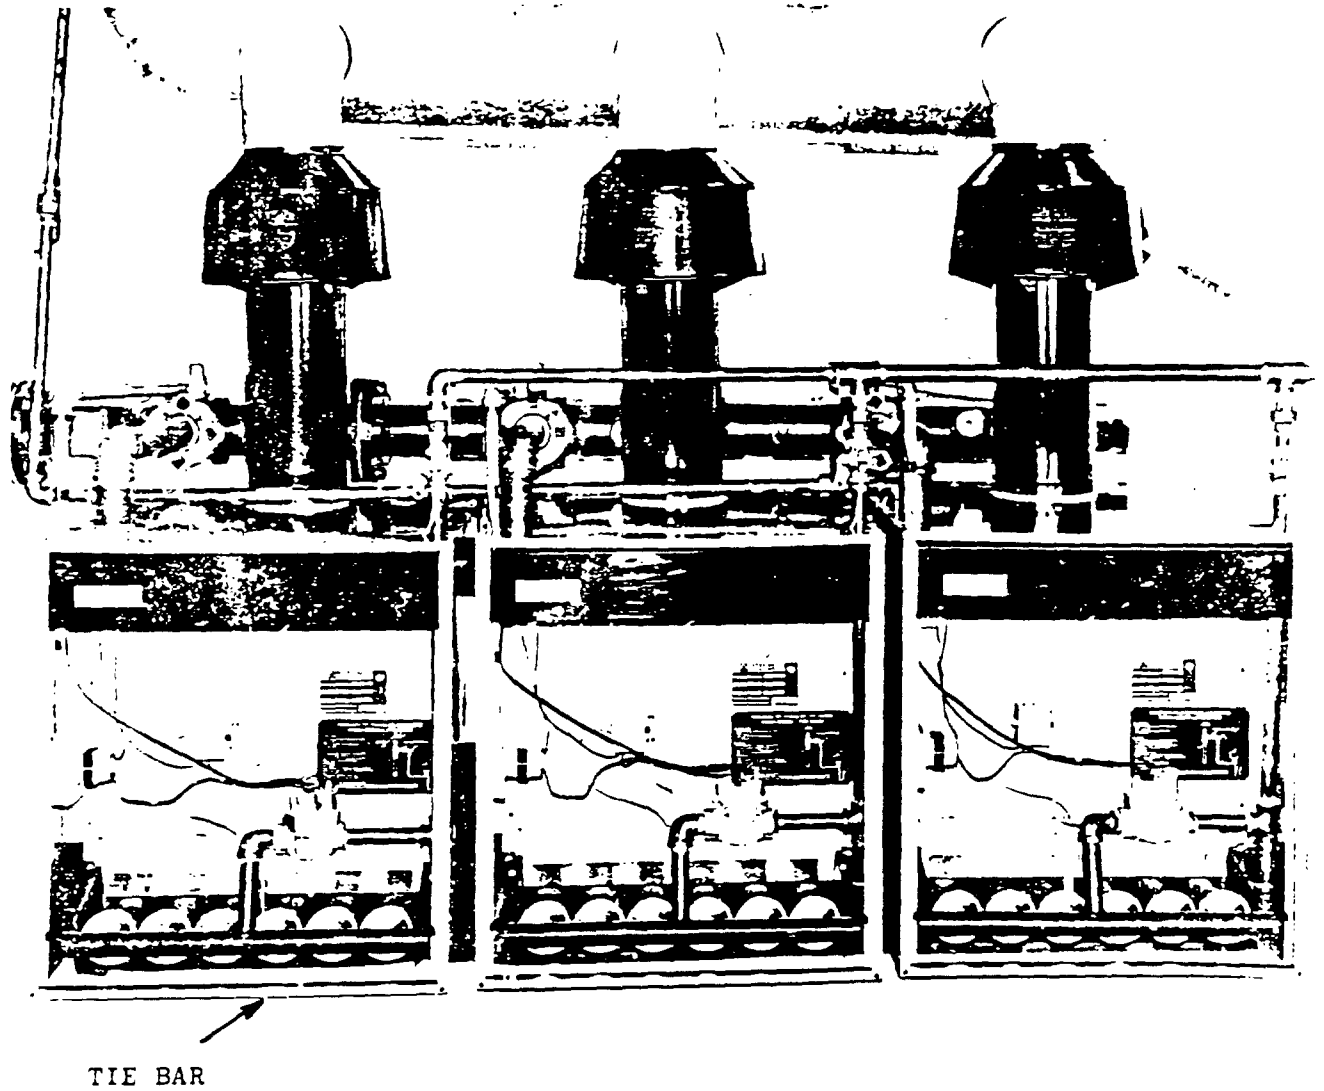

FIG. 15
5. Attach the tie bar to the side panels at the lower front portion of the boiler with #8 x 3/8" sheet metal screws (See Figure 15).
7. Attach the number and series plate and the lighting instructions plate to the jacket liner with #6 x 1/4" sheet metal screws. (See Figure 15)